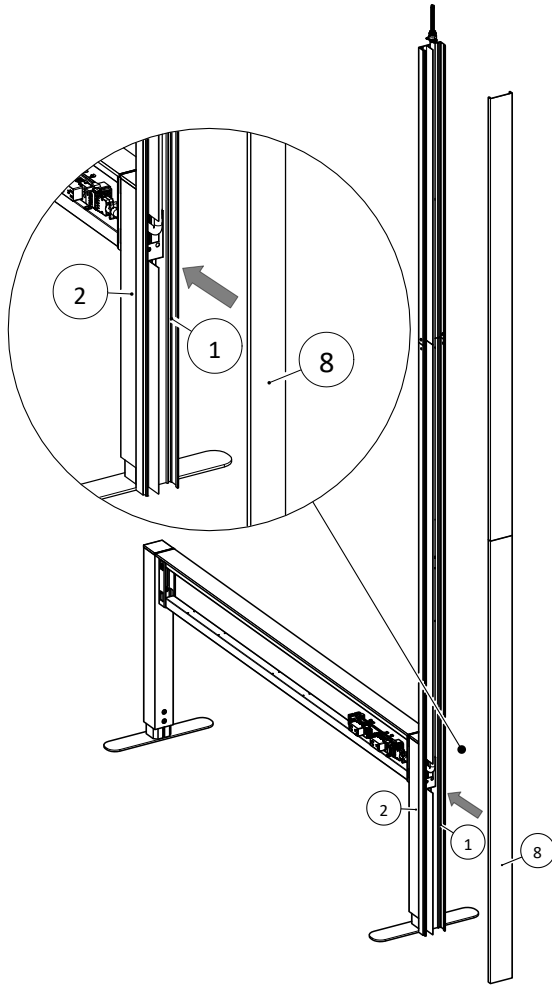

Figure 9
STEP 6: Clip the two halves of the power pole together, as shown in Figures 9 or 10.